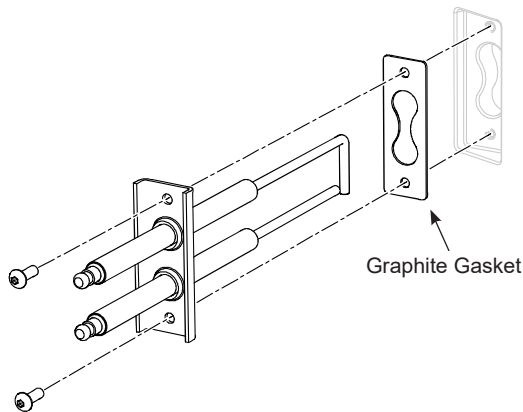

Figure 34: Igniter Electrode Assembly
- e. Install igniter electrode in the orientation shown in Figure 34; otherwise, the unit will not light.